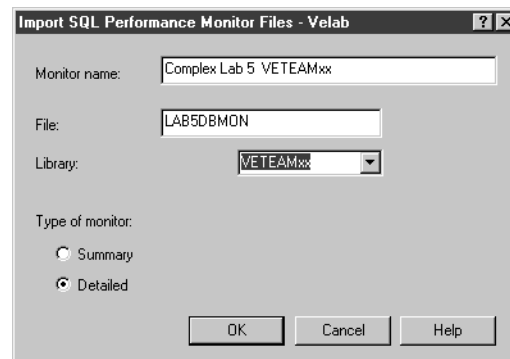

Figure 17. Import SQL Performance Monitor Files
- ___ 1. Switch to the Operations Navigator window and right-click **SQL Performance Monitors**. Select **Import ...**. The Import SQL Performance Monitor Files dialogue panel appears as shown in Figure 17.
- ___ 2. Enter the details shown in Figure 17 using your team name, and then click **OK**.